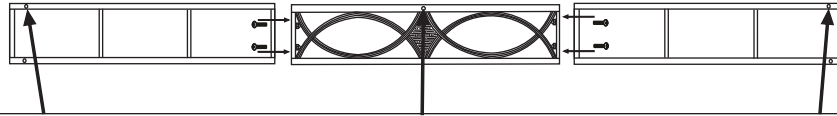

Fig.3
1. Place left cross beam #2, center cross beam #3 and right cross beam #4 at the desired location on a level and flat surface. Using four M6x25mm screws #22 and M6 nuts #20, attach the 3 beams together. See fig.3. Repeat this step for remaining cross beams 2,3 and 4.